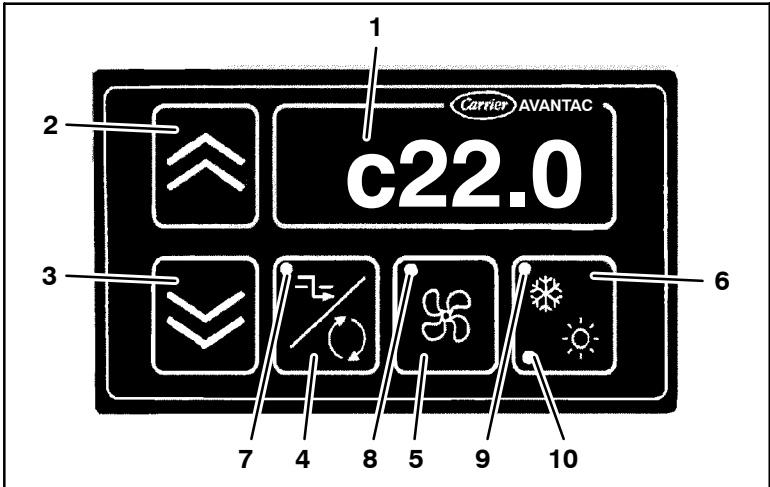

Figure 1-2 Drivers Display
- Display - (Figure 1-2, Item 1.) The standard indication is the set-point temperature.
- Fresh Air - (Figure 1-2, Item 7.) This green LED will illuminate when the fresh air damper is open.
- Blower Control - (Figure 1-2, Item 8.) This green LED will illuminate when the evaporator blower motors are controlled manually as described in 2.1.1  'Blower Control'
- Cool/Heat - (Figure 1-2, Item 9.) This green LED will illuminate when the unit is operating in Auto Mode.
- Malfunction - (Figure 1-2, Item 10.) This red LED will illuminate when the high pressure safety switch activates.
- Reheat - (Figure 1-2, Item 9.) This green LED will flash when the reheat function is active.
Recirculate/Fresh Air Key and Automatic Climate Control Key	<p>-Press Recirculate/Fresh Air and Automatic Climate Control keys together to activate the reheat mode for 20 minutes. When the reheat mode is activated, the green LED (See Figure 1-2, Item 9) will flash on/off.</p>
- b. On the driver display, press Plus  (See Figure 1-2, Item 2) and Minus  (See Figure 1-2, Item 3) keys together to go to the parameter display mode. When the driver display is in the parameter mode, press the Plus  key multiple times until the generator voltage is shown on the display. Since the generator is not running, it will show a residual voltage which is close to the supplied 24VDC voltage.
- d. Release the IMD test switch on the control box. After releasing the switch for about 10 seconds, the IMD test light on the box will turn OFF. On the driver display (See Figure 1-2), the generator voltage should show close to 24VDC, which confirms the 24VDC voltage for the generator is back on.